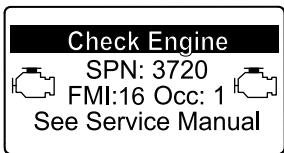

Figure 81
- Engine warning SPN 3720, FMI 16 (Figure 81)